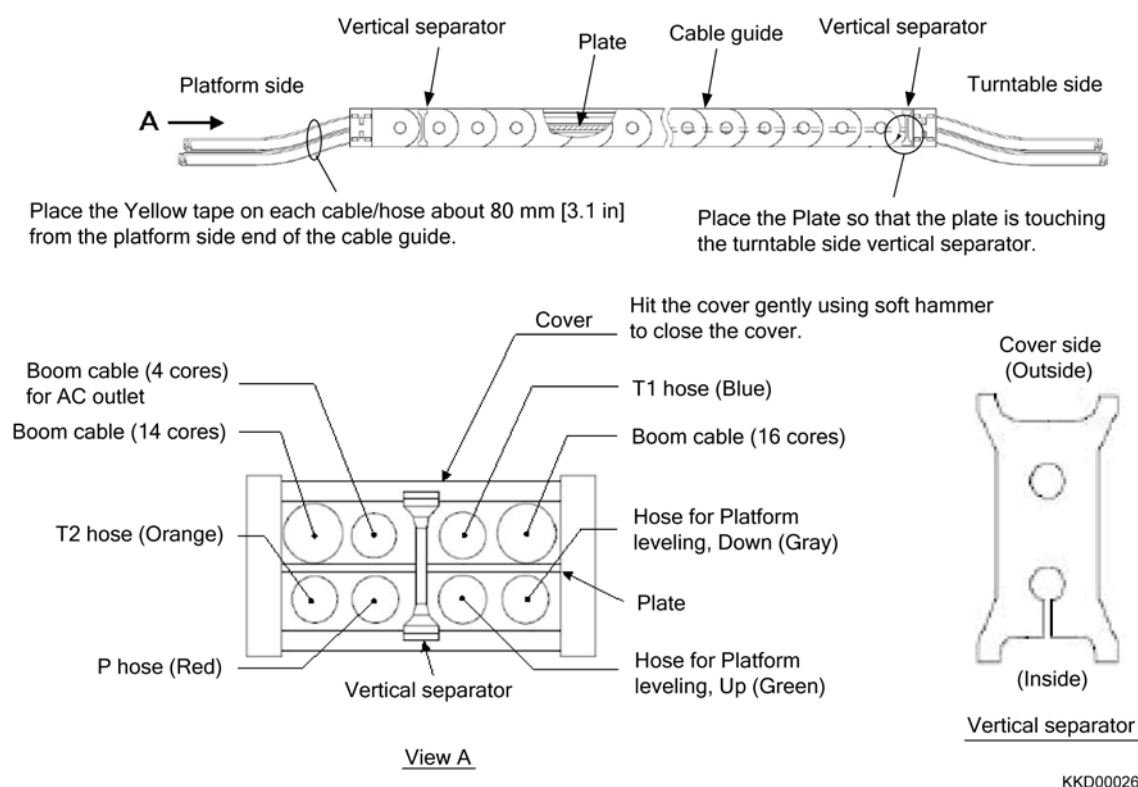

Fig. 2-53
2) Set the boom cables and hoses in the cable guide as shown in Fig. 2-53